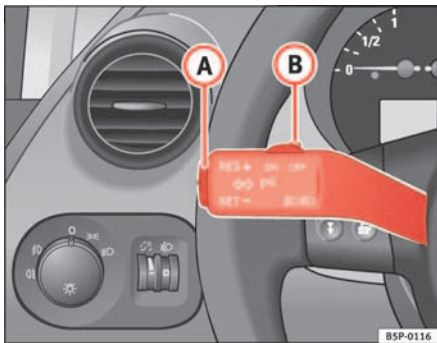

Fig. 143 Turn signal and main beam lever: switch and rocker switch for CCS
- Press the lower part **SET-** of the rocker switch ⇒ fig. 143 (A) once briefly when you have reached the speed you wish to set.